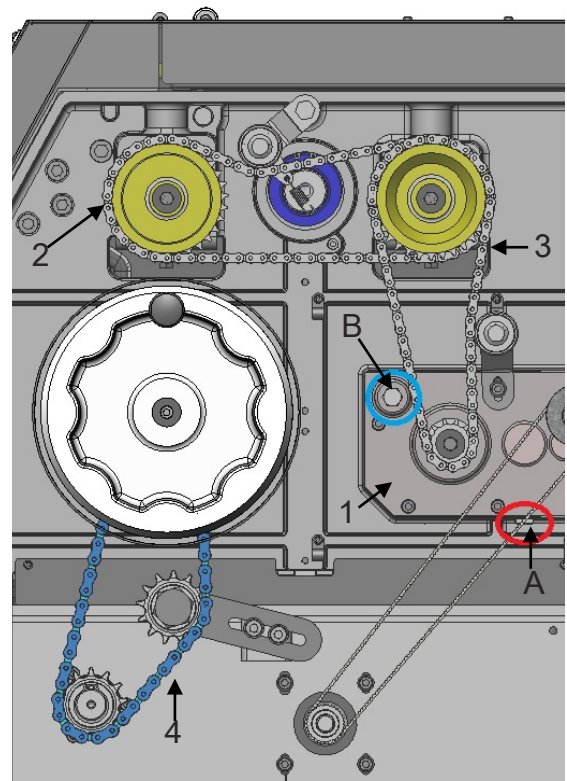

Figure 25: Lubrication
- The Gear Box oil must be changed after 2500 hours of work. (Fig. 25)
- All chains must be lubricated regularly. (Fig. 25 & 26)
1. Loosen the screw (Fig. 25, A).